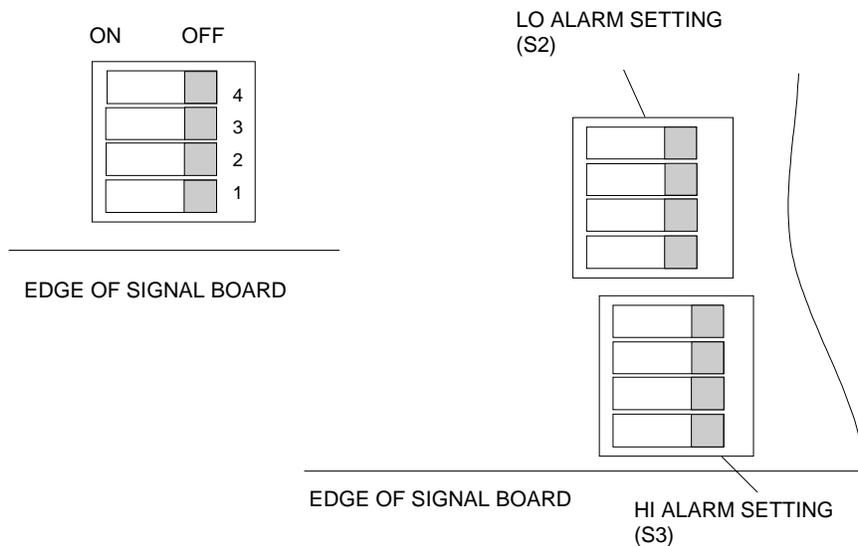

FIGURE 4-4. ALARM SWITCH LOCATION
5. To change the alarm setting refer to Figure 4-4 and Table 4-1 for desired configuration